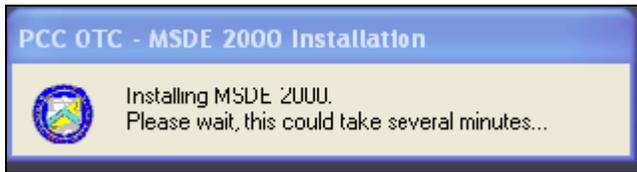

Figure 2.6
2. The system will prompt that it is 'Installing MSDE 2000 as pictured in Figure 2.6, and to please wait. MSDE stands for Microsoft SQL Server Desktop Engine™. The installation of MSDE can take as long as 5 minutes to complete.